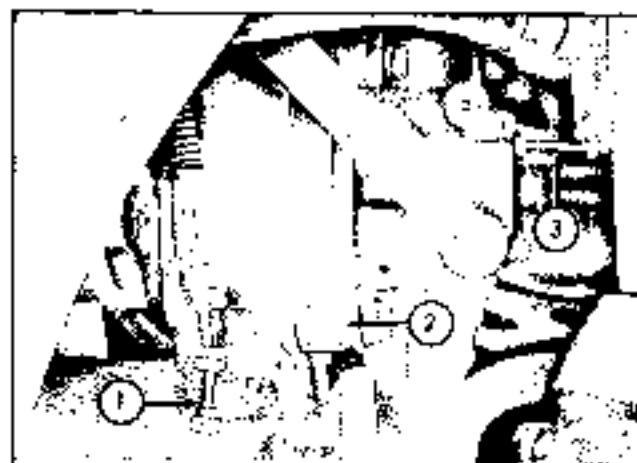

Fig. 1-14. Governor
a. Start the engine and allow it to warm up to operating temperature. While the engine is warming up, back out the surge adjusting screw (3, figure 1-14) so it will have no effect.
b. Back out the speed adjustment locking screw (2, figure 1-14) so it will not interfere with the speed adjustment.
c. Turn speed adjusting screw (1, figure 1-14) to provide a no-load speed of 2600 RPM. Tighten locking screw (2, figure 1-14) against stop to maintain this position.
d. If the governor surges, turn in the surge adjusting screw (3, figure 1-14) one turn at a time until the surge is eliminated. Do not turn the screw in far enough to increase the engine speed more than a few RPM, if any.